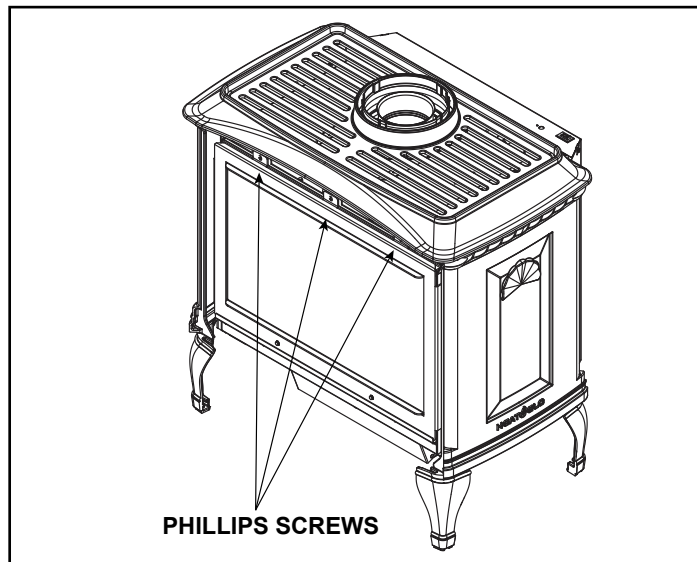

Figure 10.2 Remove Glass Frame
3. Using a #2 Phillips bit, remove three fasteners from the top of the glass frame assembly. See Figure 10.2. Remove glass from appliance.